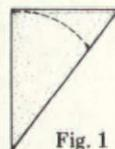

Fig. 1
**T**O MAKE PAPER CONES, cut squares in white or coloured paper. Fold the square in half, like Fig. 1 and cut off the piece at the top, making the two sides equal. When opened it will resemble Fig. 2. Gum it as far as the dotted line, and join it. Be sure to join it so that there is not a hole at the point. If it is made of white paper, cut some strips of red, or green, and of gold paper. Edge it with gold, and paste strips of red, green, and gold round it spirally at intervals. If the the cone is made of coloured paper, use gold, white, and some contrasting hue. Fig. 3 illustrates it. Fill with sweets and toys and hang from the Christmas tree.